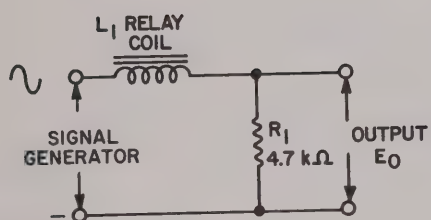

FIGURE 5-1
1. Set up the low pass RL filter circuit of Figure 5-1 on the design console. The relay coil is used as the circuit inductance. Be sure to use the sinewave output of the audio generator. The low voltage dc power supply is not used, so set the ADJUST VOLTAGE control fully counterclockwise.
4. Set up the high pass RL filter circuit of Figure 5-5 on your design console. (This is the same circuit as that of Figure 5-1 except that the output is now taken across the inductor.) Again, be sure to use the sinewave output of the audio generator. The ADJUST VOLTAGE control should be set fully counterclockwise
5. C - SUPPOSE THAT IN THE CIRCUIT OF FIGURE 5-1 THE INDUCTANCE OF L_1 IS INCREASED.